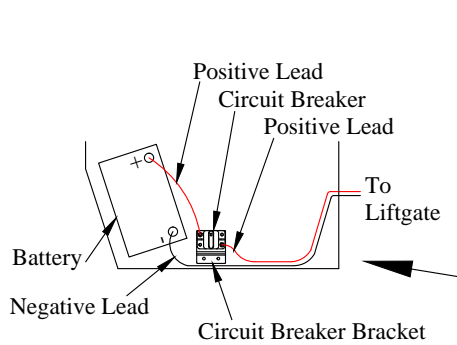

Figure 14: 2024-present circuit breaker bracket.
1. **Install** the circuit breaker on the circuit breaker bracket with 1/4" screws and nuts (Figure 14 or 16).